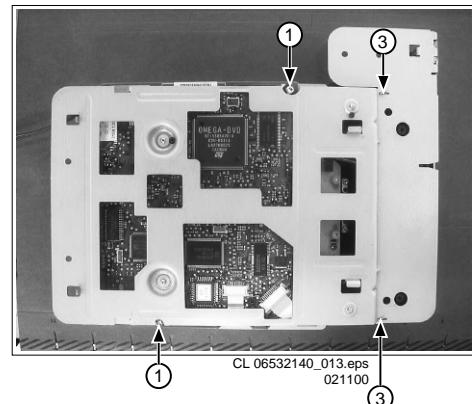

Figure 4-3
- Remove the top-cover of the DVD. Therefor unscrew two fixation screws [1] and un-twist the two lugs [3] on the bottom-side, **Fig. 4-3**. The top-cover can now be removed.